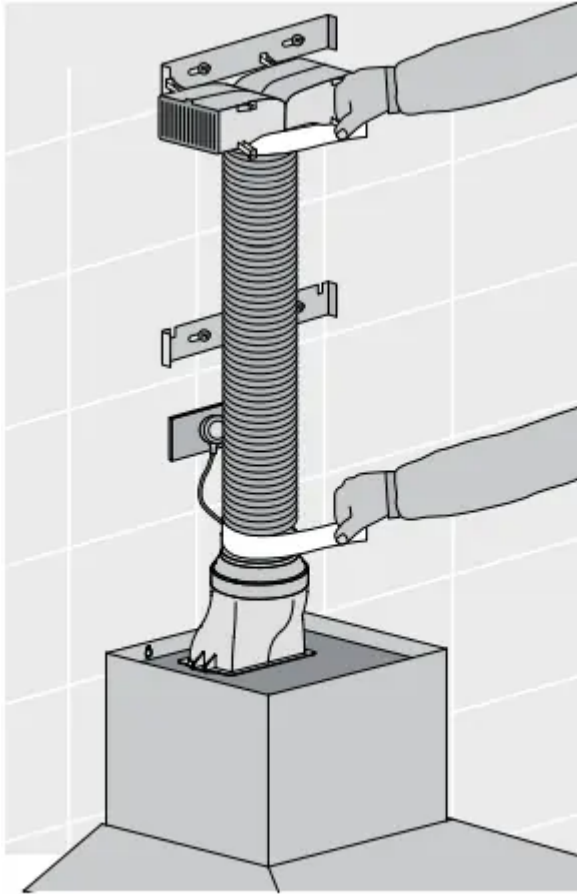

Fig. 12
*Use cable ties or suitable duct tape to secure flexible pipe to T-piece and reducer (Fig. 12)*